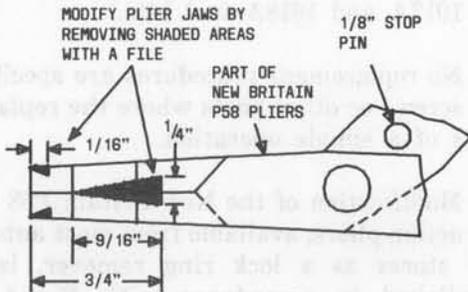

Fig. 4—Modification of New Britain P58 Pliers for Clip Removal
| — | ◆New Britain P58 reverse action pliers (to be modified in the field, see Fig. 4)◆ |
4.03 Modification of the New Britain P58 reverse action pliers, available from most automotive supply stores as a lock ring remover, is to be accomplished in accordance with Fig. 4. The 1/8-inch stop pin is to be installed in a hole drilled with an electric drill and located so as to limit jaw